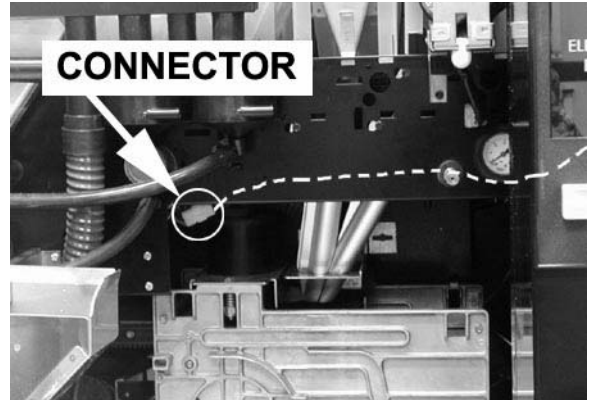

Figure 7
- a. The cable is shown routed between the cup station and the cup sensor PCB (See Figure 7).